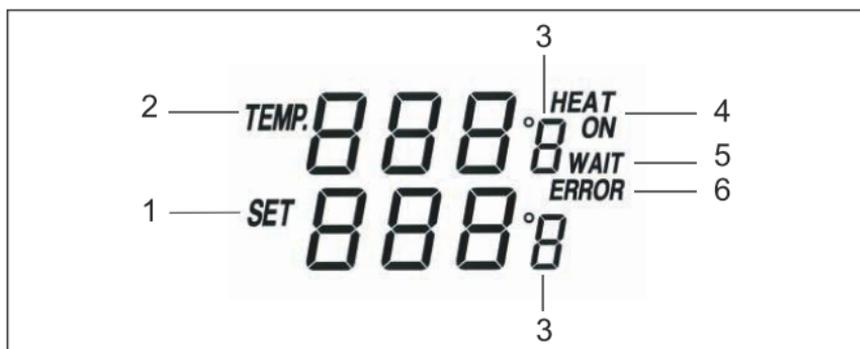

Fig.11: Anzeige LC-Display
If the soldering station is operated without or with a defective soldering iron a warning sound can be heard and the display will flash „ERROR“. See Fig. 11.
3. Select the required temperature by means of the temperature preselect buttons „200 °C“, „300 °C“ and „400 °C“ (10) and the UP/DOWN buttons (4).
E.g. 300 °C: After pressing the „300 °C“ button the selected temperature is displayed as „SET 300°C“. The upper value to the right of „Temp.“ climbs to 300 °C. Meanwhile, at the right side of the display „HEAT ON“ and „WAIT“ will be displayed until the set temperature has been reached. See Fig. 11.